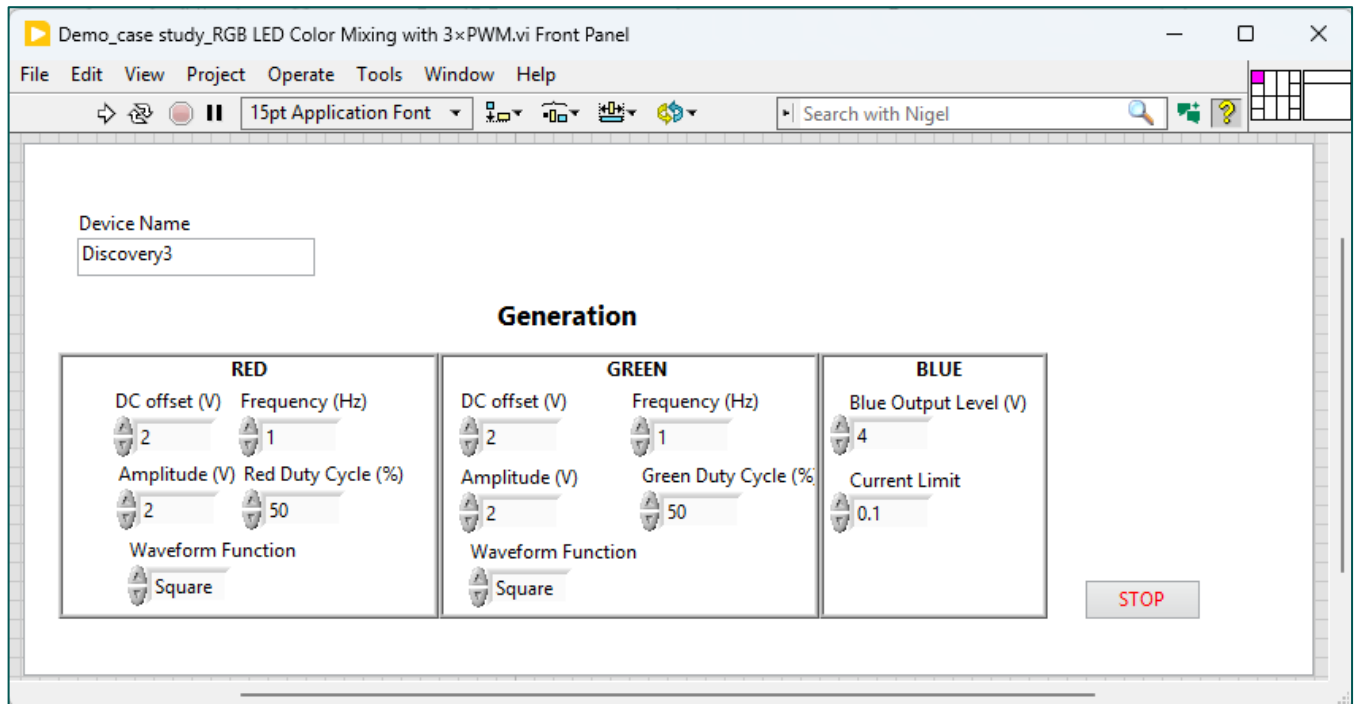

Figure 6. VI Front Panel
2.2. Modify the front panel shown in **Figure 6**. Inside **Device name** String Control write your corresponding **Device** name from **Table 2**.